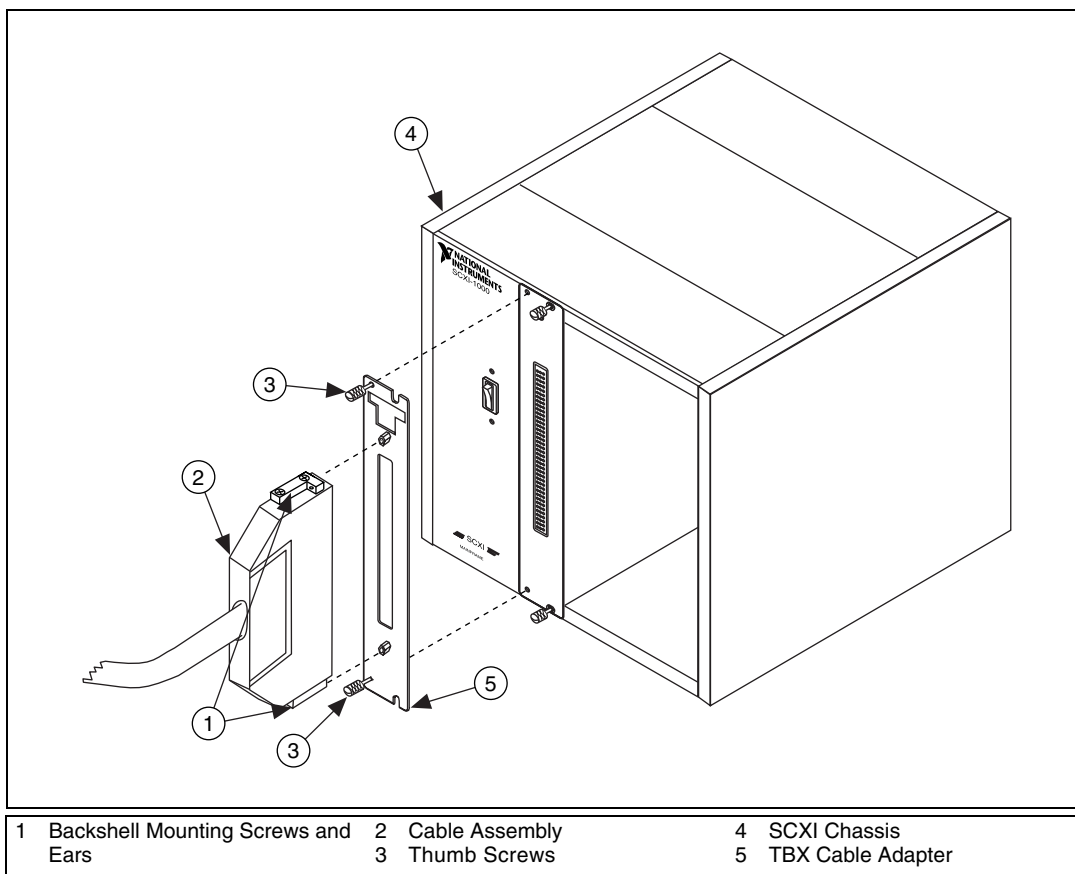
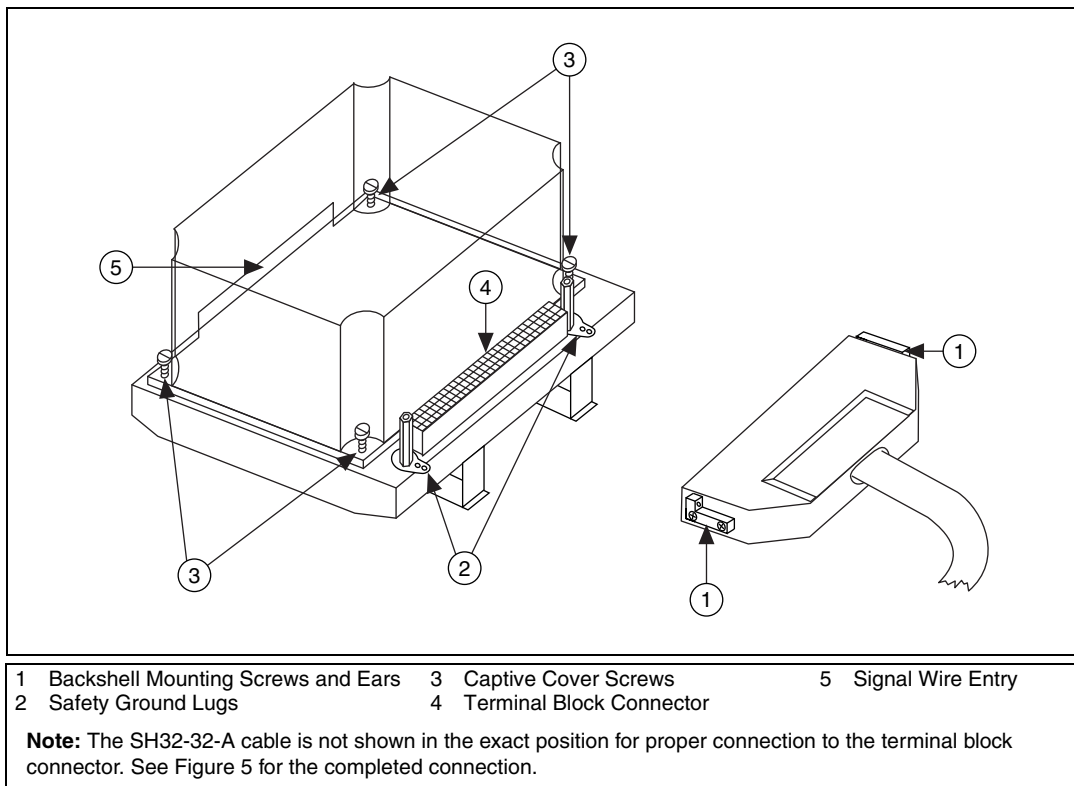

Figure 3. Connecting the SH32-32-A Cable to the SCXI Module
Figure 4. Connecting the SH32-32-A Cable to the TBX-1329 Terminal Block
Perform the following steps to mount the SH32-32-A cable assembly and connect the TBX-1329 to your SCXI module. Refer to Figures 3 through 5 as needed.
4. Verify that the four backshell mounting ears on the cable assembly are in the position shown in Figure 3 and Figure 4. If not, remove the backshell mounting ears and install them in the position shown.